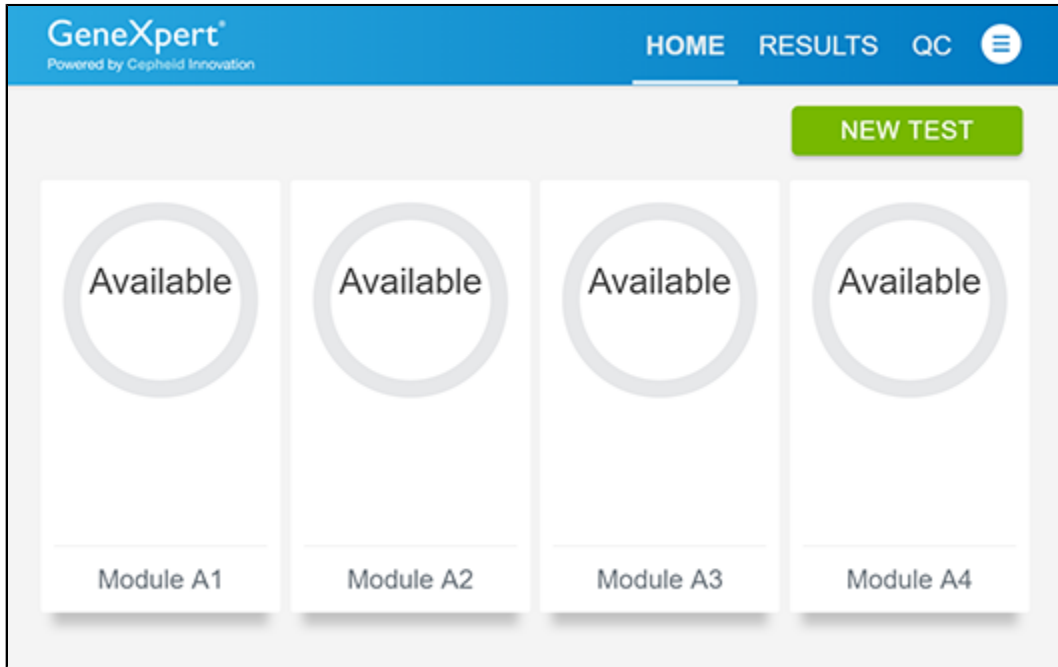

Figure 23. Home Screen
- If otherwise required by your institution’s standard Quality Control (QC) procedures
1. Put on a new pair of gloves if performing a new test. Touch the **QC** button on the Home screen (see Figure 23).